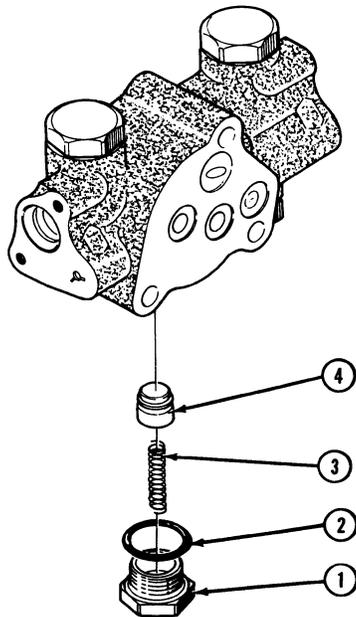

Figure 10
- Remove the plug (1) and O-ring (2) in the bottom of the valve and remove the spring (3), and poppet (4), Figure 10.